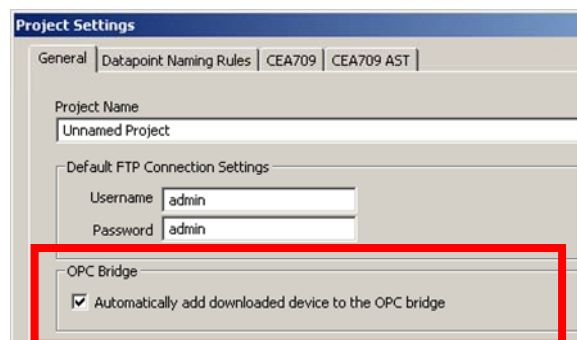

Figure 122: Enable bridge export in the project settings.
2. In the LINX-10X Configurator menu go to **Settings** → **Project settings ...**. This opens the project settings dialog on the tab **General** as shown in Figure 122.